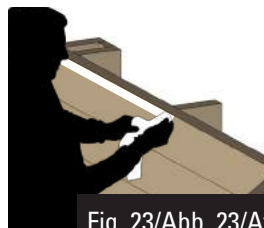

Fig. 23/Abb. 23/Afb. 23
- Stick the two-faced adhesive tape panel by panel, aligning it with the upper part of the top boards (figure 23). If the wood is slightly humid and dusty, it can be smoothed using sandpaper to facilitate adherence.